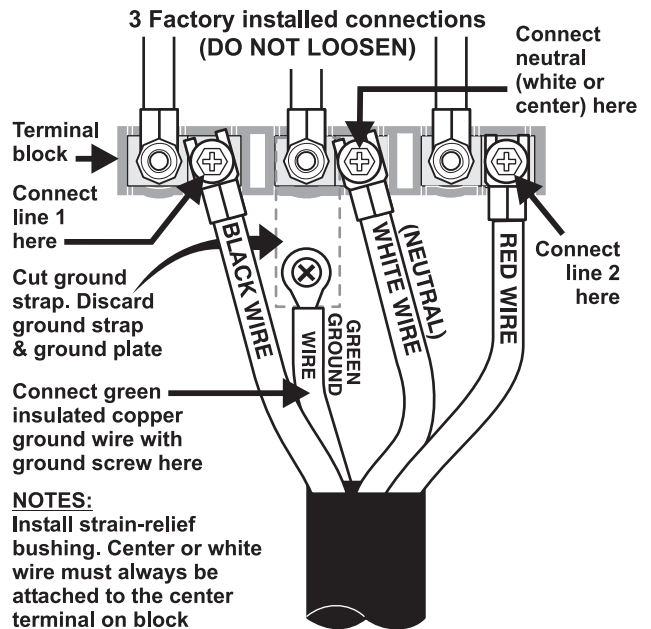

Fig. 33
### B Wiring instructions (4-wire connection - See fig. 33)
4. Connect the ground wire (Green) lead with the eyelet to the frame of the appliance with the ground screw using the same hole in the frame where the ground screw was originally installed (See Fig. 33).